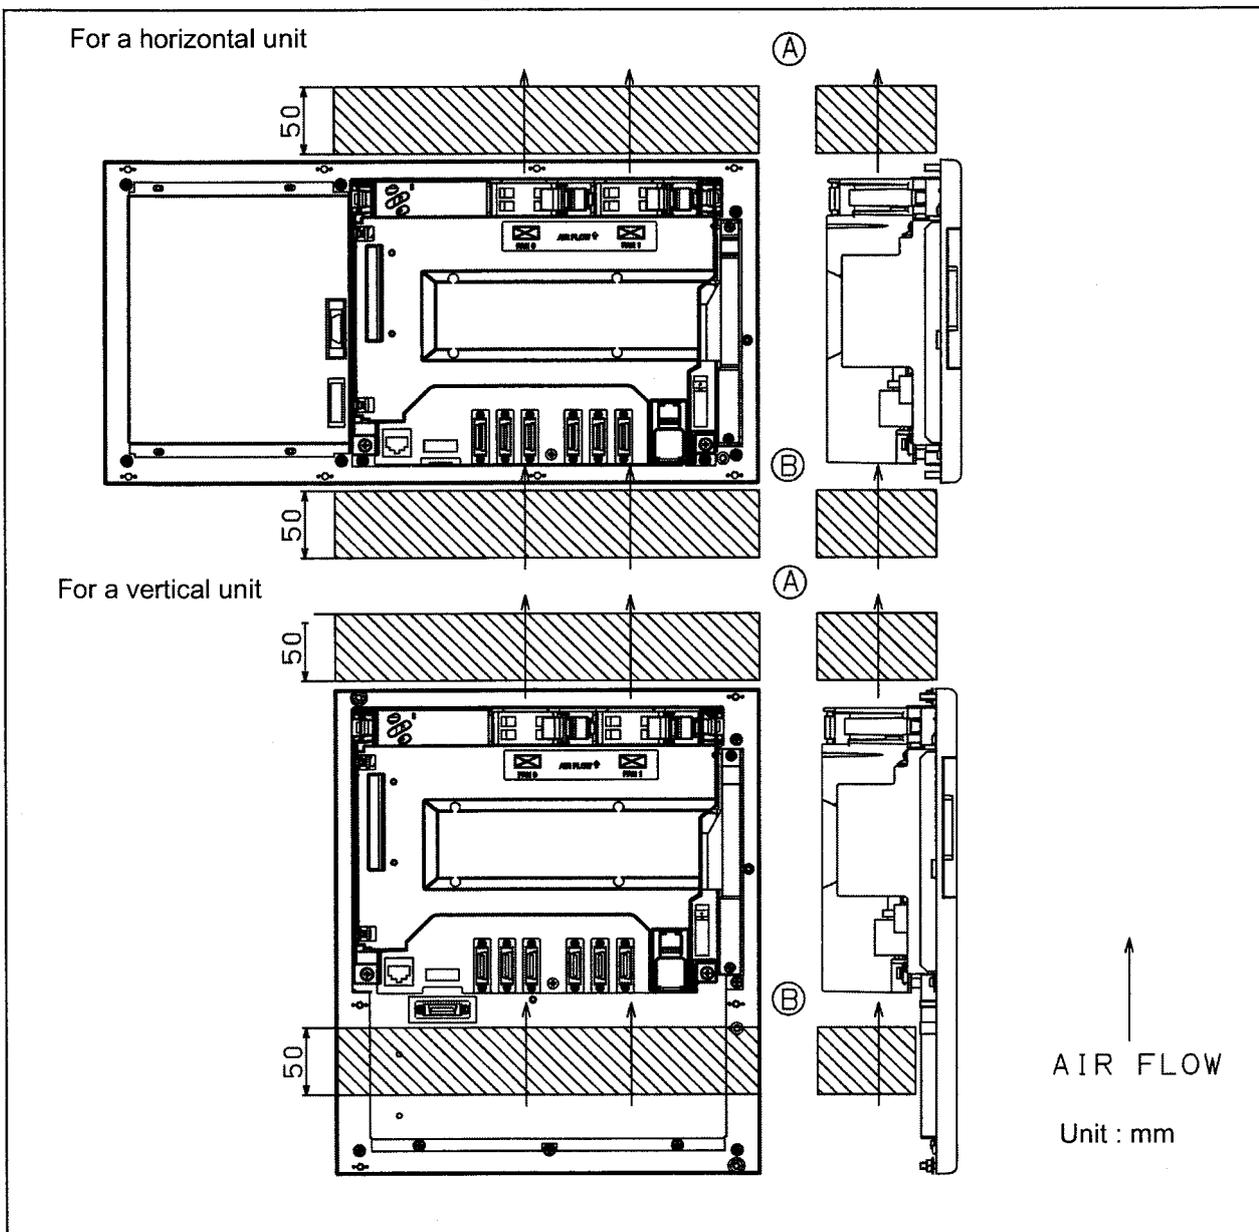

Fig. 3.6.1
The control unit has a built-in fan motor. Air enters the control unit through the bottom and is drawn through the fan motor which is located on the top of the control unit. Space (A), shown in Fig. 3.6.1, must be provided to ensure unrestricted air flow. Also, space (B) should be provided whenever possible. When space (B) cannot be provided, ensure that nothing is placed in the immediate vicinity which could obstruct the air flow.